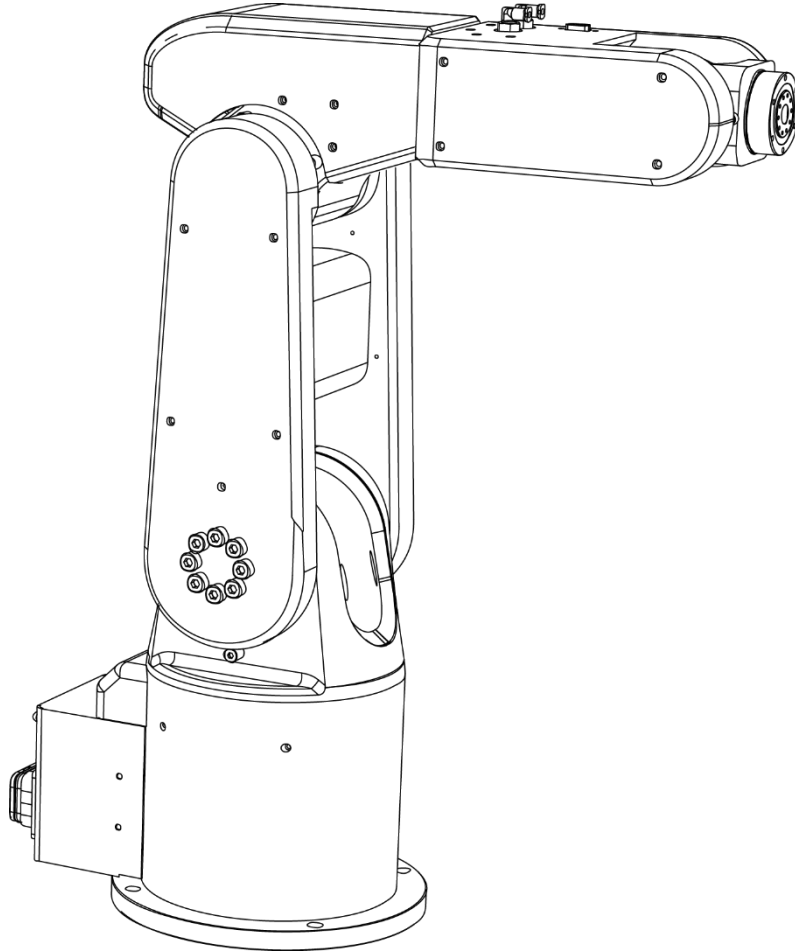

Figure 1.20 Original position
- Step 1** Make the robot motor in the disabled status and put the robot in the original position, as shown in Figure 1.20.